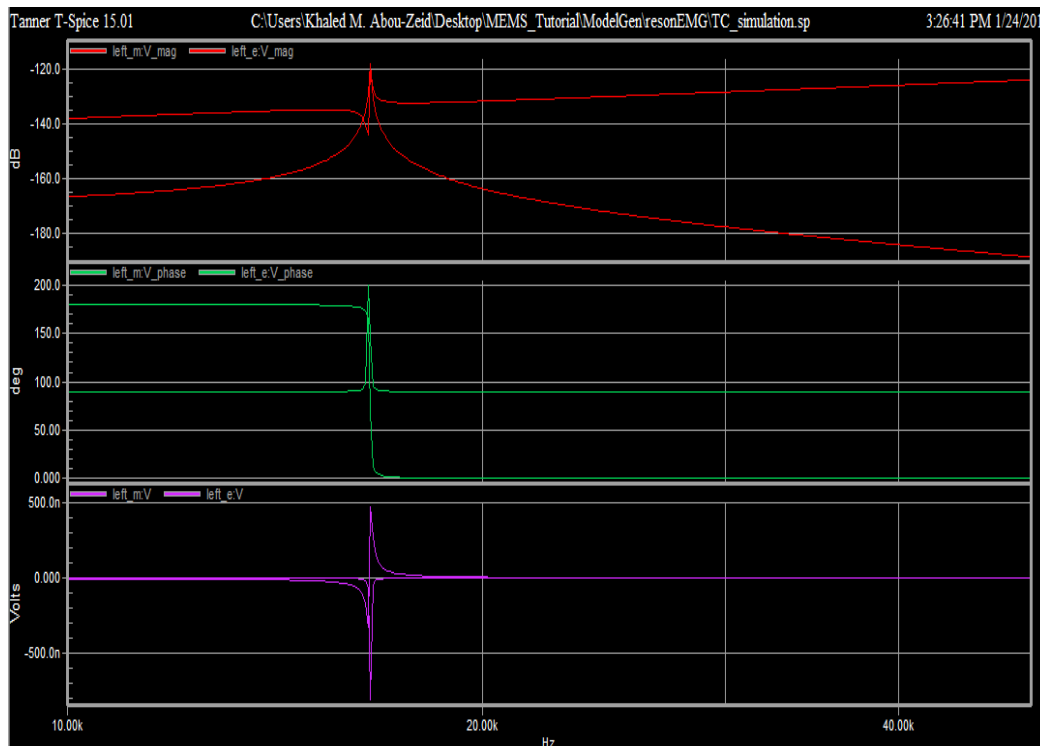

Figure 95: Resultant waveform
- Once T-Spice is launched with the corresponding Spice netlist, click on the **Run Simulation** button. The simulator will start the simulation and display the resultant waveform (**Figure 95**). The resonant frequency should be around 16.5 KHz.